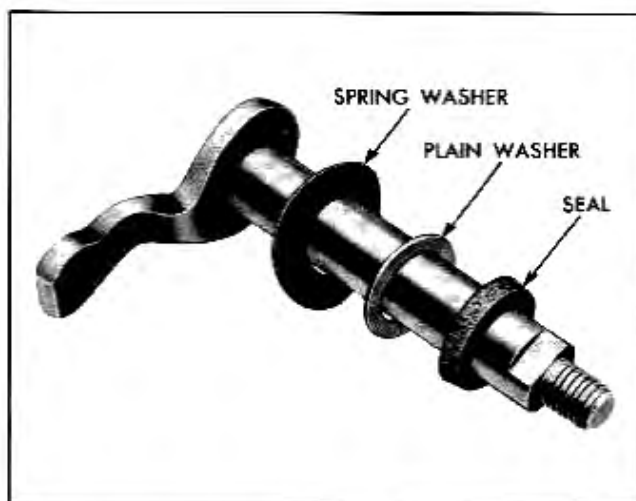

Fig. 7-31 Inner Selector Lever Shaft Assembly
4. Place spring washer, flat washer, and oil seal on selector lever shaft in order named, with crowned side of spring washer against flat washer (See Fig. 7-31). Apply lubriplate to shaft and assemble into transmission case. Then install outer selector lever.